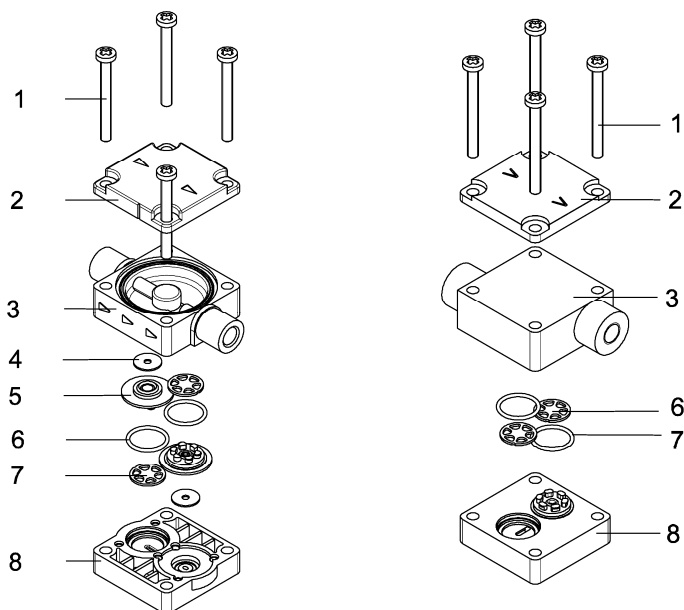

Fig. 53: Head, KT, TT
2. Rinse connecting plate (3) and intermediate plate (8) and wipe with a soft cloth. Blow dry with compressed air
3. Remove valve seats (5) carefully. The sealing washers (4) are not present in the FT head, see Fig. 53
4. Remove O-Rings (6) and valve disk (7).